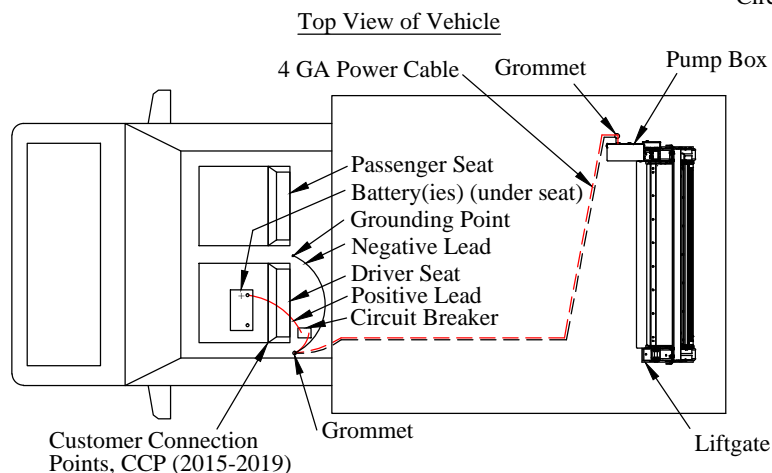

Figure 14: Electrical routing (Ford Transit).
6. **Route** the power cables under the vehicle from the liftgate, along the frame, to a location under the driver door (Figure 14).
19. **Remove** the plastic cover from the CCP on the driver seat pedestal (Figure 14).
20. **Install** the supplied bus bar on the CCP studs using three (3) supplied M5 nuts and star washers.